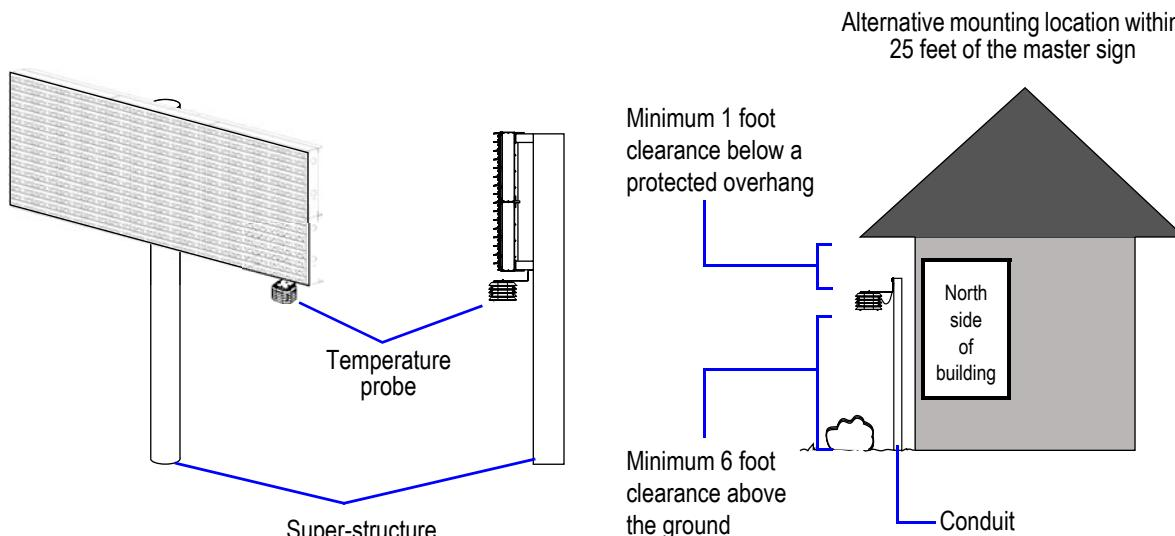

Figure 34.Possible temperature probe mounting locations.
- Vents on the temperature probe **must** point downward. See Figure 34 on page 38 for proper orientation.